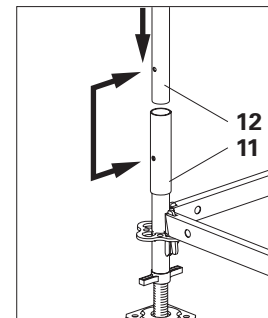

Fig. A2.03b
2. Align the insert holes with each other. (Fig. A2.03b)